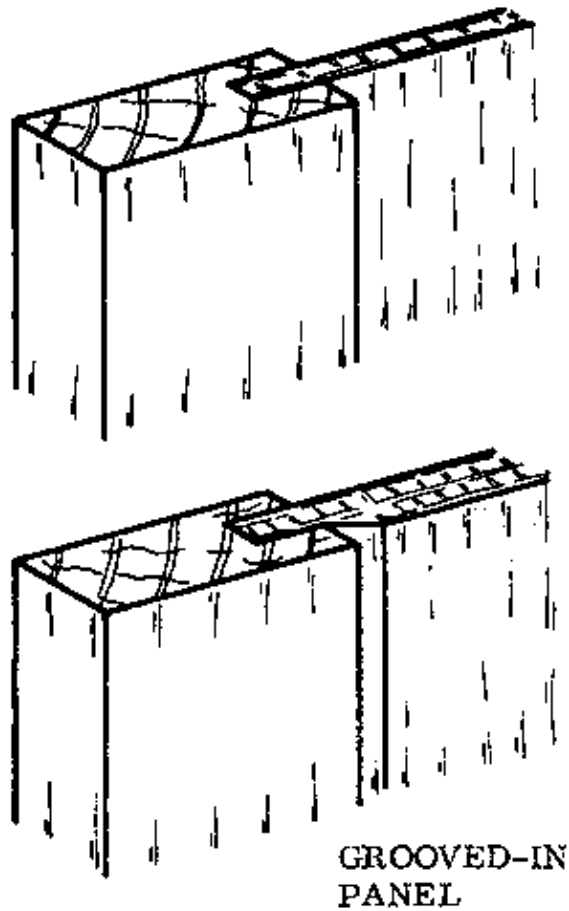

Fig. 2
– GROOVED-IN PANEL: This construction can be used only on doors which will be protected from the rain. If water enters the groove, it will not be able to dry out and can cause the plywood to rot (Fig. 2).